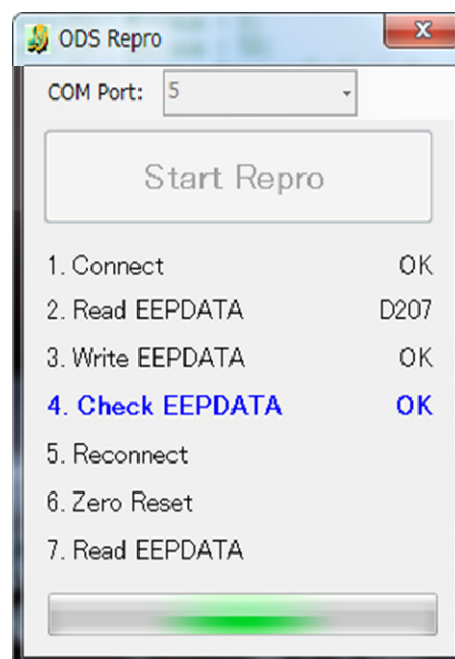

Figure 29
- Items 1 through 4 (Figure 29) will likely complete quickly.